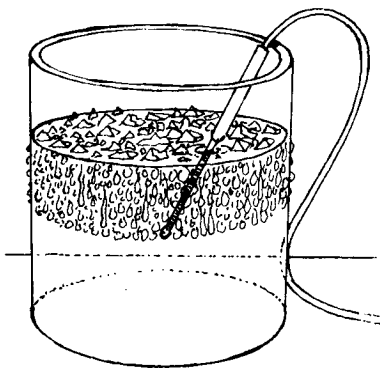

Figure 3.1-1. Lifting the temperature sensor in the can of water.
12. Carefully raise the temperature sensor in the water in the can until it is just opposite to the bottom of the band of condensation on the outside surface of the can. See Figure 3.1-1